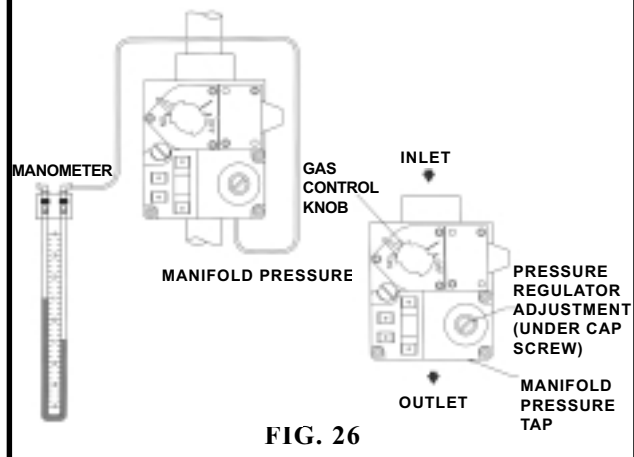

FIG. 26
4. Remove the "hex plug, located on manifold piping to burners (300,000 Btu/hr models) or on the "outlet" side of the gas valve (990,000-2,070,000 Btu/hr models) and install a fitting suitable to connect to a manometer or magnahelic gauge. See Figure 26 and 27. Minimum range of scale should be up to 5A" w.c. for natural gas and 10" w.c. for propane gas.